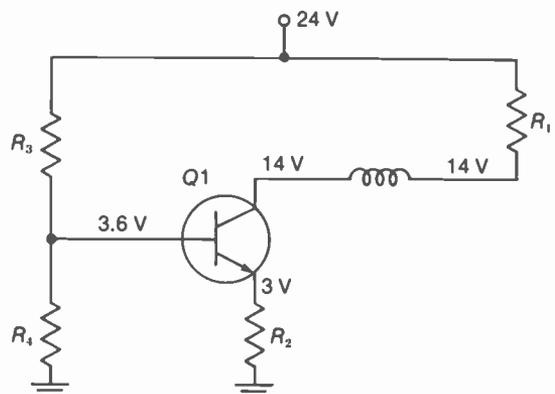

FIGURE 28-17 NORMAL DC VOLTAGES ON NPN SILICON TRANSISTOR FOR CE AMPLIFIER WITH  $R_L$  IN COLLECTOR CIRCUIT.
**Transistor voltage tests.** In the circuit, the main question is usually whether the transistor is conducting or not. We assume a class A stage, where the amplifier conducts with or without signal. Consider the CE amplifier in Fig. 28-17 with normal dc operating voltages. The collector voltage is 14 V because of the 10-V drop across  $R_1$  from the 24-V supply. This  $IR$  drop is produced by collector current. Note that there is no voltage drop across  $L_1$  because of its low dc resistance.